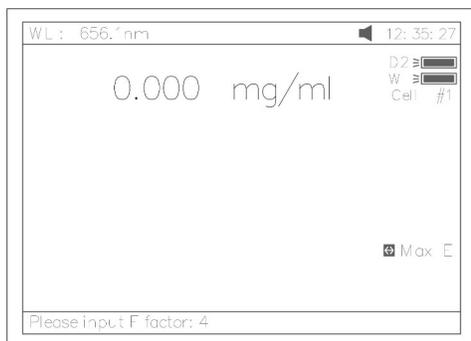

Fig 23
4.1 Press **【F3】** to input known F value, Fig 23. Then push the sample into Main Light Path to take reading of concentration